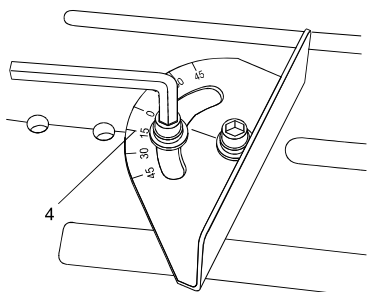

Figure 6
2. Loosen the mitre gauge cap screws by turning them counterclockwise using the 8 mm hex key supplied. (Figure 6)